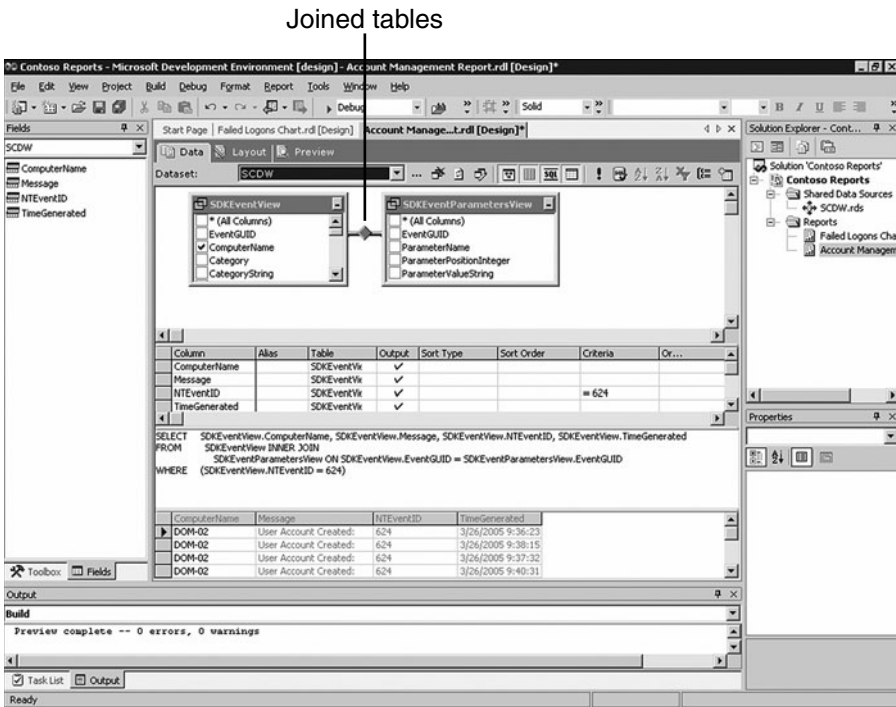

FIGURE 21.22 Joined tables.
5. You will now see two tables in the Diagram pane. The first table contains basic event data, and the second table contains the data contained in each parameter of the event. To join these tables together drag the column name EventGUID from the first table and drop it on the EventGUID column name in the second table. A link between the two tables will be created, as shown in Figure 21.22 indicating the tables have been joined.